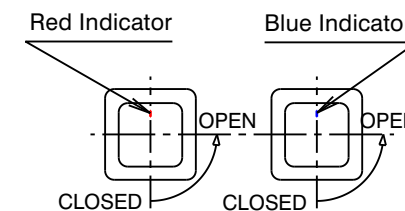
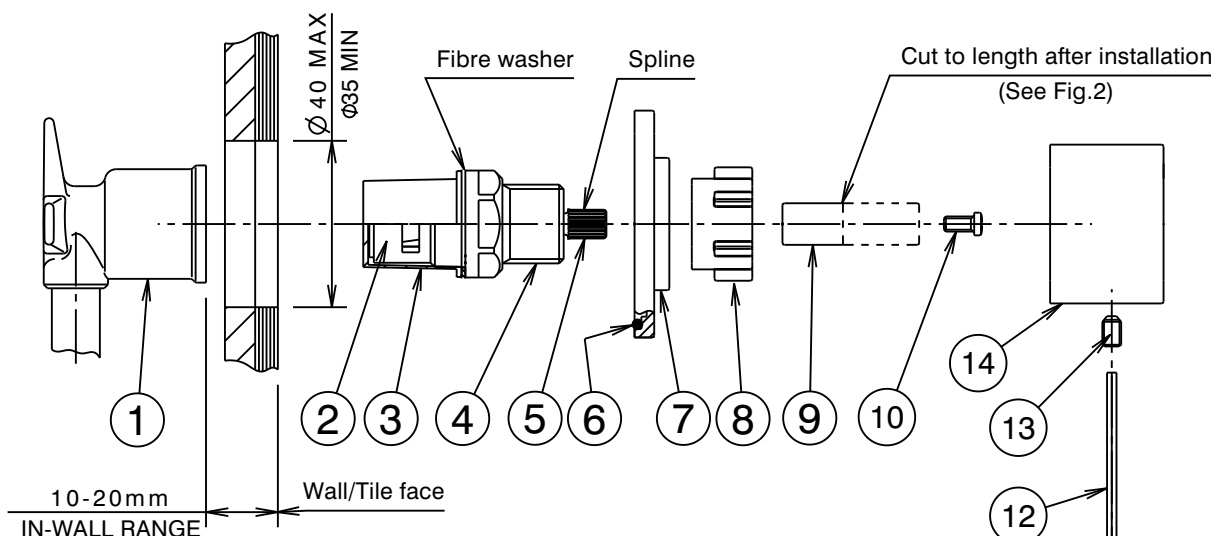

Fig. 3
Fig. 1
- * In-wall depth 10-20mm (Fig.1).
- * Hole size in finished wall: 35-40mm dia (Fig.1)
- 1) Check that the face of the recess tap body (1) is 10-20 mm from the wall/tile face, as shown in Fig.1.
- 2) Check seats in recess tap bodies (1) are in good condition and free of foreign materials. Reseat if required.
- 3) To install ceramic disc cartridges (2), first remove protective cap (3), cartridge nut (4) and fibre washer from cartridge (2). Screw cartridge (2) into tap body (1). Tighten cartridge (2) until it comes to a firm stop. (DO NOT TIGHTEN CARTRIDGE USING SPINDLE) Fit fibre washer and then cartridge nut (4) and tighten.
- 4) Rotate cartridge spindles (5) to the fully closed position (Fig.3), then fit handle inserts (9) onto spline of cartridge spindle and check that the square on each insert is in horizontal alignment (temporarily fit the handle (14) onto the handle insert to confirm). For small adjustments to handle positions, cartridge (2) can be rotated **slightly** in an anti-clockwise direction until handles are aligned (Fig 3) before tightening cartridge nut (4). Remove handles after the alignment check, then fit screw (10) to retain the handle inserts (9) to the cartridge spindle (5) & tighten.
- 5) Place wall flange (7) together with 'O'ring (6) over each installed cartridge, check that flanges (7) are horizontally aligned (Fig.3), then screw on retaining nut (8) and tighten until the 'O'Ring (6) is compressed against the wall/tile face.
- 7) Check that the cartridge spindles (5) are rotated to the closed position with the handle inserts (9) in horizontal alignment as before then fit each handle (14) onto the insert (9) with the red & blue markings as shown (Fig.3). Push the handle onto the insert (9) until it contacts the face of the retaining nut (8) then tighten screw (13) using the 2.5mm allen key (12) provided. Fit plug (11).